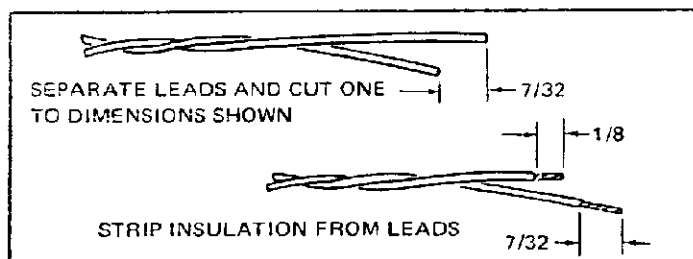

Figure 4
- (a) Separate the insulated leads and cut one lead to dimension shown in Figure 4.